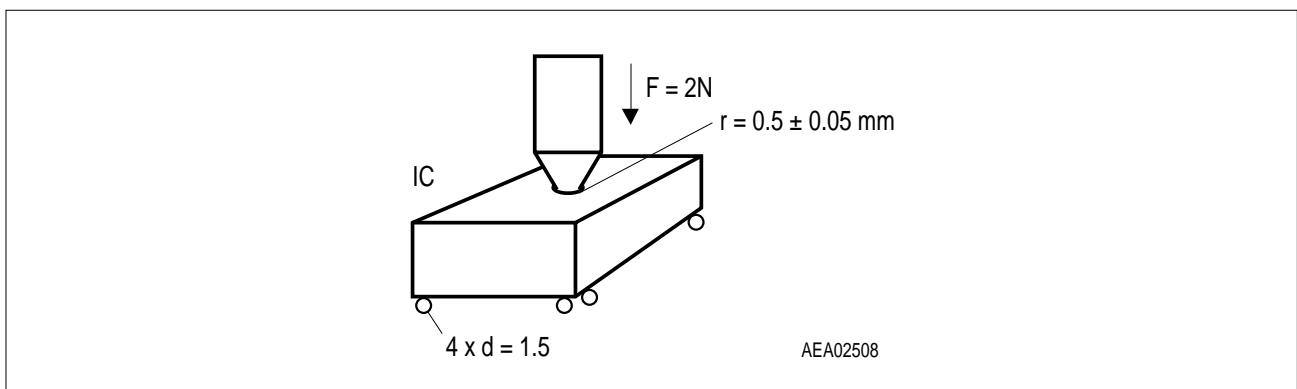

Figure 7 Setup for Piezo Measurements
6) For definition see **Figure 7**.